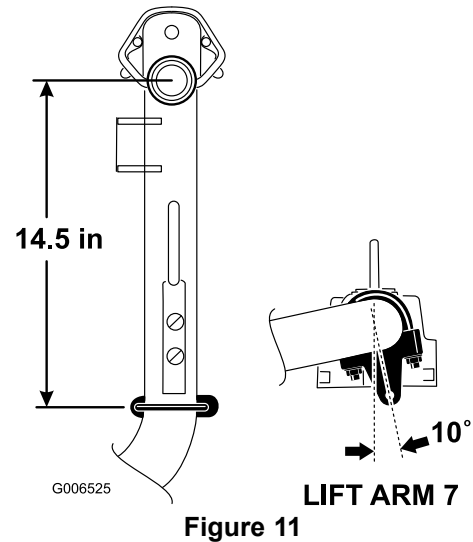

Figure 11
- On lift arms #6 and #7, position the brackets and U-bolts 368 mm (14.5 inches) behind the center line of the pivot knuckle (Figure 11). Rotate the brackets 10 degrees to the outboard side of the machine.